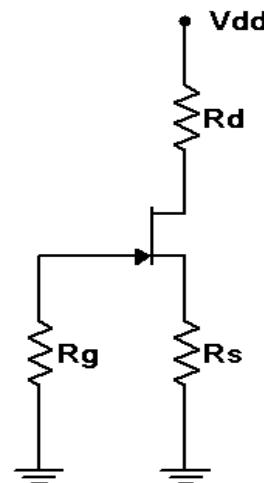

Figure 2
- Consider the circuit of Figure 2 using $V_{dd} = 15$ volts, $R_g = 330 \text{ k}\Omega$, $R_d = 4.7 \text{ k}\Omega$, and $R_s = 2.2 \text{ k}\Omega$. Using the values of Table 1, calculate and record the expected voltages for JFET 1 in Table 2. Also record the expected drain current in Table 3.
- Build the circuit of Figure 2 using $V_{dd} = 15$ volts, $R_g = 330 \text{ k}\Omega$, $R_d = 4.7 \text{ k}\Omega$, and $R_s = 2.2 \text{ k}\Omega$. Measure and record the voltages for JFET 1 in Table 2. Based on V_D , compute and record the experimental drain current in Table 3. Also determine and record the drain current deviation.